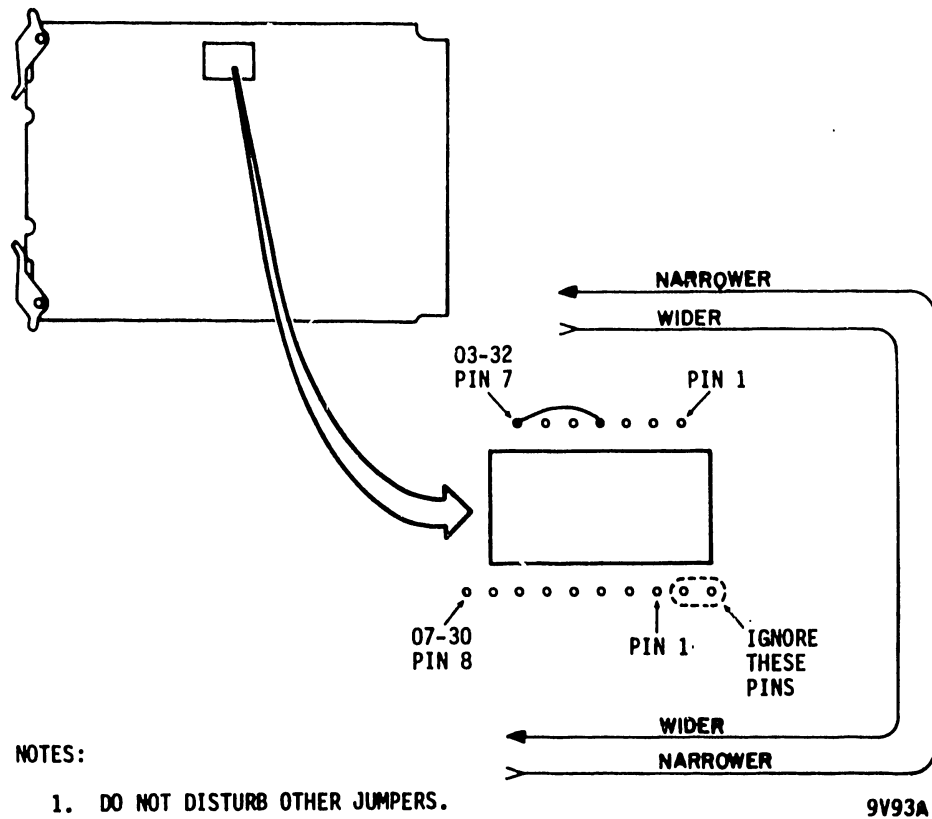

Figure 2C-3. Servo Pulse Width Adjustment
- (a) If pulse width is less than 85 ns, the pulse width must be made wider as shown in figure 2C-3. The other end of the jumper wire from location 0332 pin 7 determines the pulse width. Re-wrap the other end of the wire to next pin using the following order: 0332 pins 5 through pin 1, then 0730 pin 1 through pin 5. Each pin increases the pulse width approximately 10 ns.
- (b) If pulse width exceeds 115 ns, the pulse width must be narrower as shown in figure 2C-3. The other end of the jumper wire from location 0332 pin 7 determines the pulse width. Re-wrap the other end of wire to next pin using the following order: 0730 pin 5 through pin 1, then 0332 pin 1 through pin 5. Each pin decreases the pulse width approximately 10 ns.